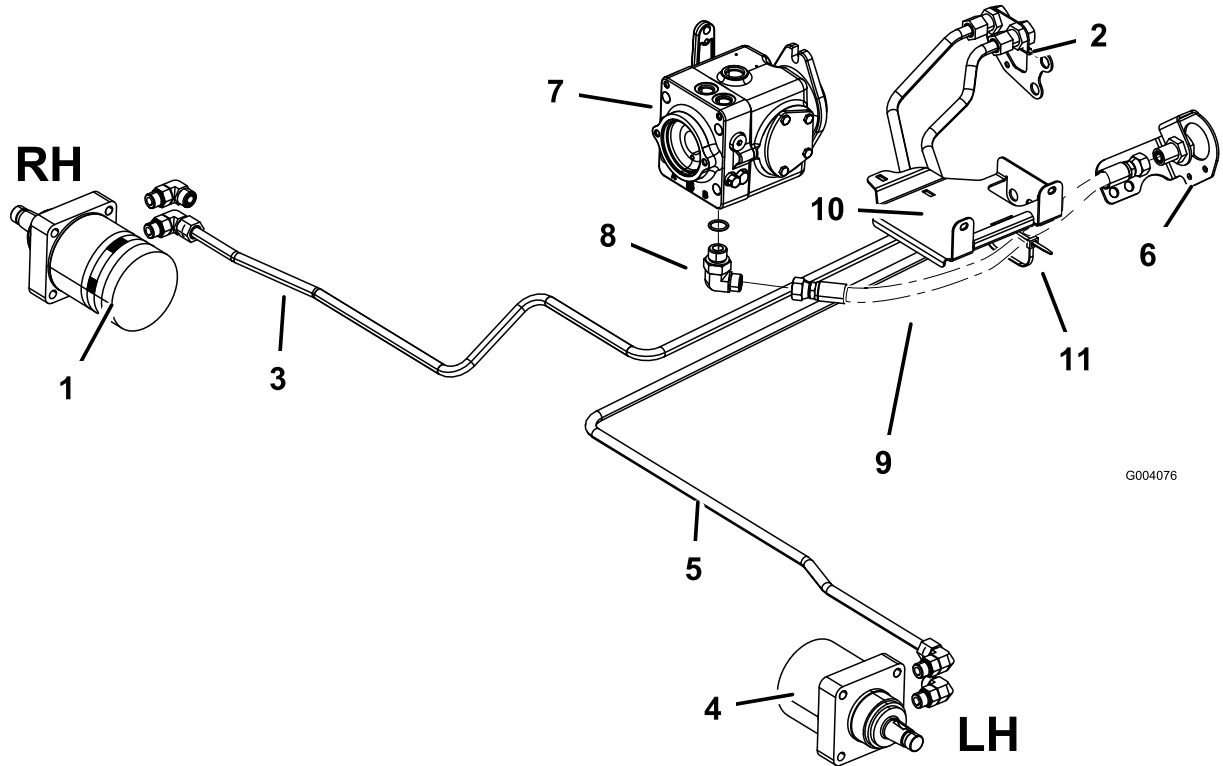

Figure 11
hydraulic tube in the right frame bulkhead (Figure 11).
2. Connect hydraulic tube, Part No. 108-7623, to the left wheel motor fitting and to the left hydraulic tube in the right frame bulkhead (Figure 11).
3. Install a 90° hydraulic fitting into the bottom of the variable pump (Figure 11).
5. Secure the hydraulic hose to the bottom of the battery tray with a cable tie (Figure 11).